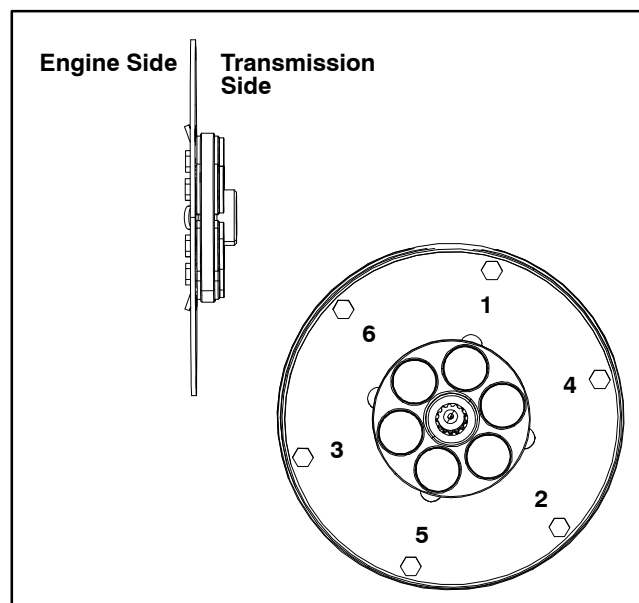

Figure 15
2. If removed, install motor mount plates (item 12) to engine with cap screws and lock washers. Torque cap screws from **34 to 42 ft-lb (47 to 56 N-m)**.
3. If flywheel coupling was removed from engine, apply Loctite #271 (or equivalent) to threads of six (6) cap screws and secure coupling to engine flywheel. Torque cap screws **19 ft-lb (26 N-m)** twice in the sequence shown in Figure 15.
5. Position two (2) dowel pins (item 27) to engine end-plate.